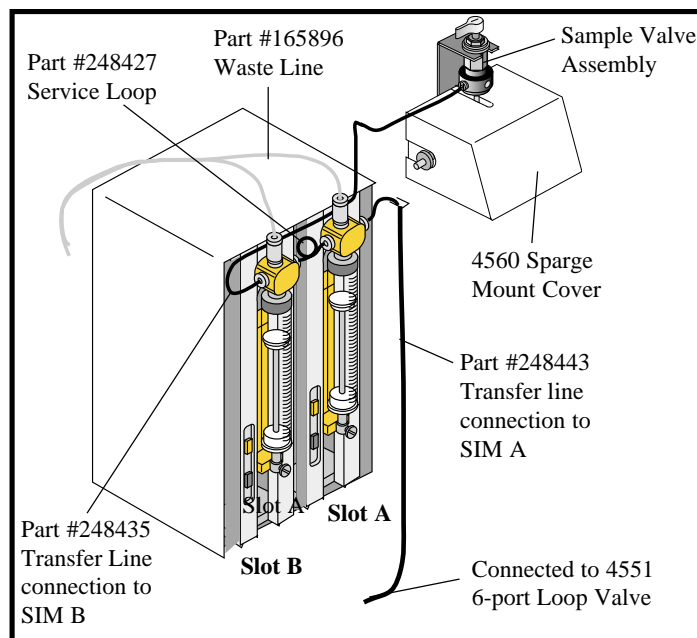

Figure 5.1. SIM/Spiker Connections
1. If installing SIM A and SIM B, connect transfer lines following the diagram and part numbers shown in Figure 5.1.
Loading the standard manually involves removing the syringe from the SIM, loading the standard, then replacing the SIM syringe. This is also the procedure for cleaning the SIM syringe, when necessary. See Figures 5.1 and 5.4 for SIM part references.